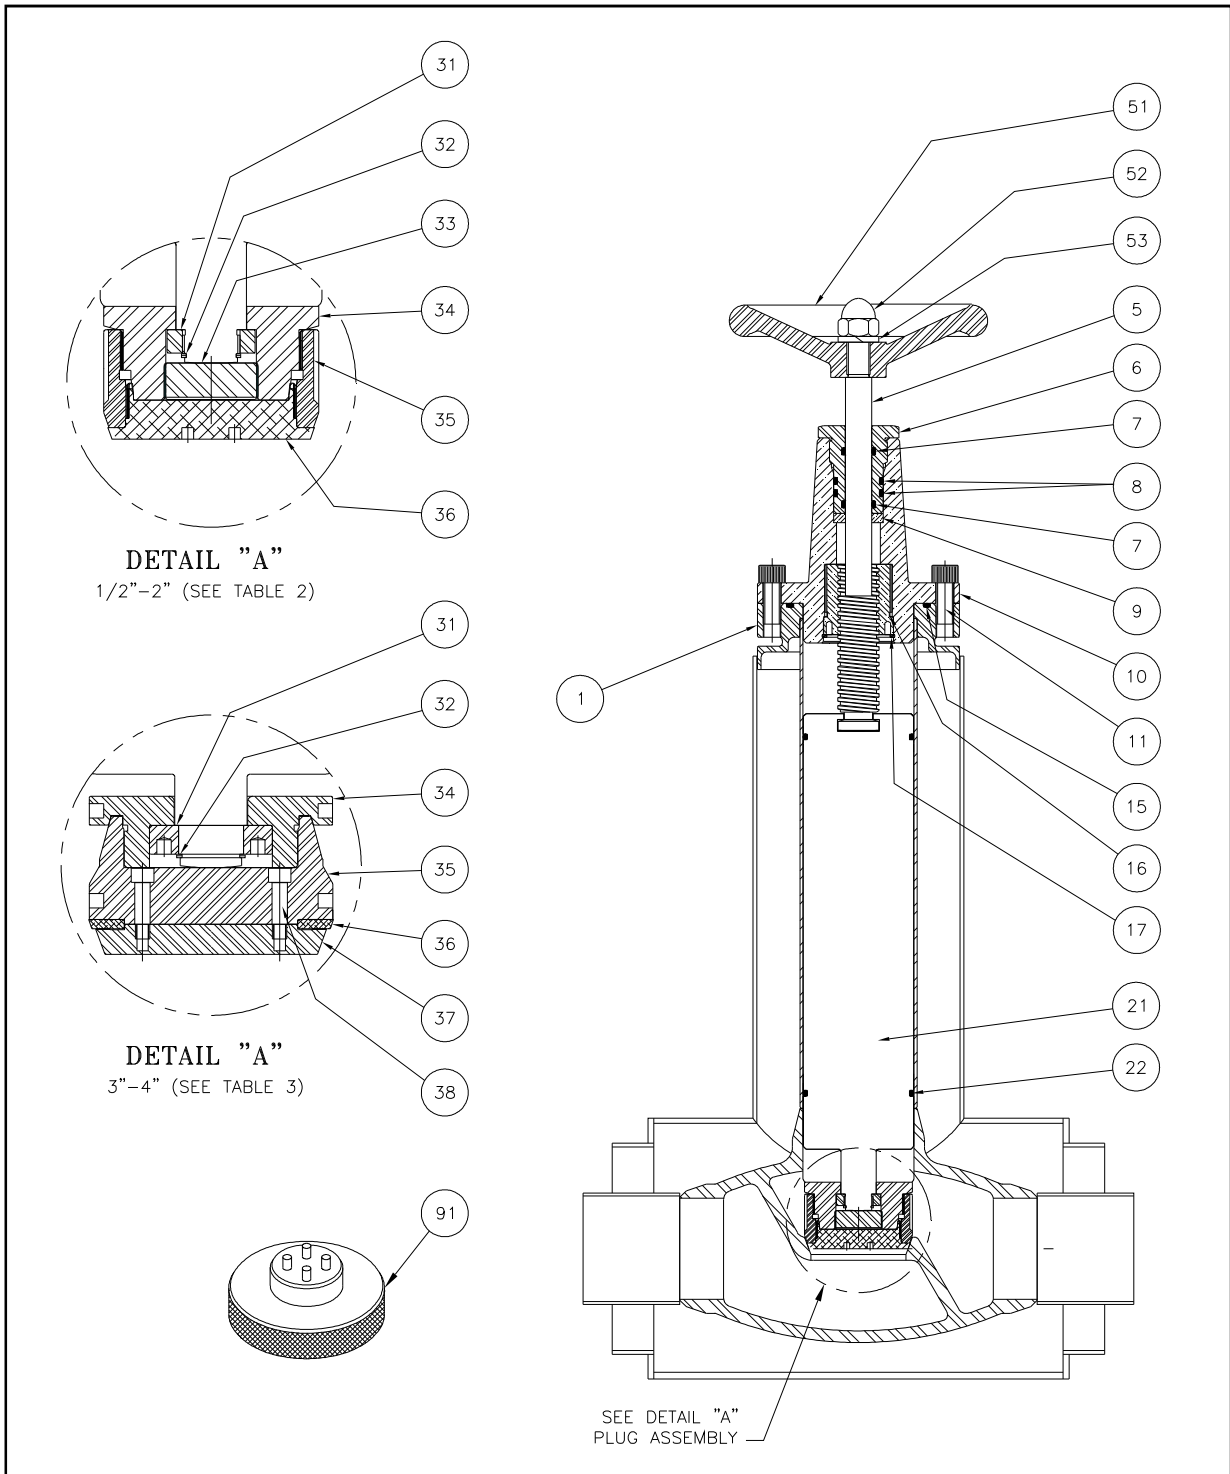

Figure 1 – Parts Diagram
- Snug the Retainer Lock Nut Plug (33) hand-tight onto the Barrel using a 1/4" Allen wrench.
- Slide the Retainer Lock Nut back and verify the Plug Retainer Nut (31) is hand-tight against the Retainer Ring (32).
- The Seal Disc (36) is replaced by first removing the Barrel (21) and plug assembly per Section 1.1 instructions.
- Next use two PHPK Spanner Wrenches (92). Place one Spanner Wrench on the Retainer Lock Nut (34) and the other on the Retainer Body (35). Hold the Retainer Lock Nut still and turn the Retainer Body counterclockwise until they separate.
- Remove the Seal Disc Support (37) from the Retainer Body by removing the Seal Disc Support Screws (38) with a 3/16" Allen wrench.
- Remove and replace the Seal Disc. The bevel on the outside diameter of the Seal Disc **must** be oriented as shown in Figure 1.